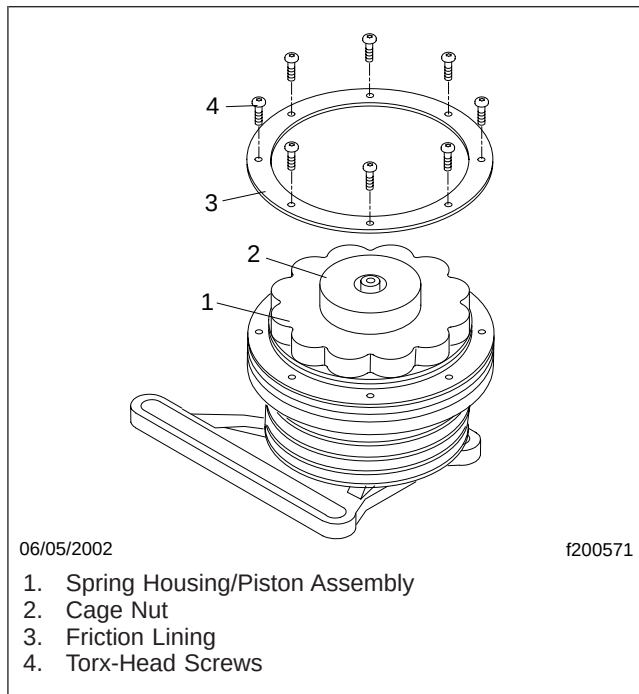

Fig. 3, Friction Lining Removal and Installation
11. Remove the friction lining. See Fig. 3.
16. Using a T27 Torx bit, install the eight Torx-head screws. See Fig. 3. Tighten alternately 80 lbf·in (900 N·cm).